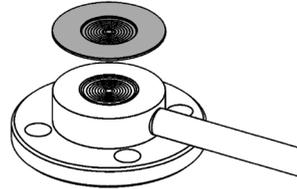

Figure 2-14. FEP Protective Film Attachment
- (3) Fit the FEP protective film onto the diaphragm surface. When doing this, lift one side and fit the film gently from the opposite side so that no air remains. (See Figure 2-14.) Also be careful of the following during attachment.